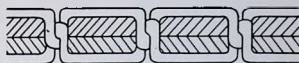
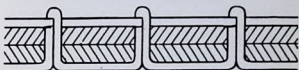
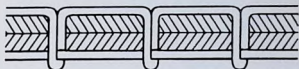
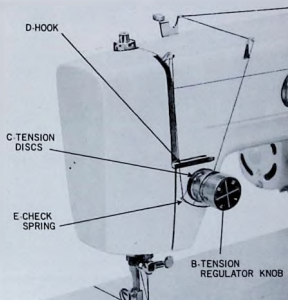

Fig. 33
Fig. 34
Fig. 35
Fig. 36. Needle Thread Tension
THREAD TENSION IS AUTOMATIC AND RARELY REQUIRES ADJUSTMENT EVEN WHEN SEWING MATERIAL OF DIFFERENT THICKNESSES. Note that for ordinary sewing the needle and bobbin threads should be locked in the center of the seam of the materials as illustrated, Fig. 33. Too tight a tension on the needle thread, OR too loose a tension on the bobbin thread will produce a stitch with the needle thread lying in a straight line along the upper surface of the material as illustrated, Fig. 34. Too tight a tension on the bobbin thread, OR too loose a tension on the needle thread will produce a stitch with bobbin thread lying on a straight line along the under side of the material as illustrated, Fig. 35. Normally most adjustments will be made on the needle thread tension control, Fig. 36, not the bobbin tension.
The presser foot must be in the down position to regulate tension on the needle thread. The tension regulator knob, (B) Fig. 36, controls the varying degrees of tension which can be produced on machine.
- D. Thread check spring, (E) Fig. 36, bent or broken.